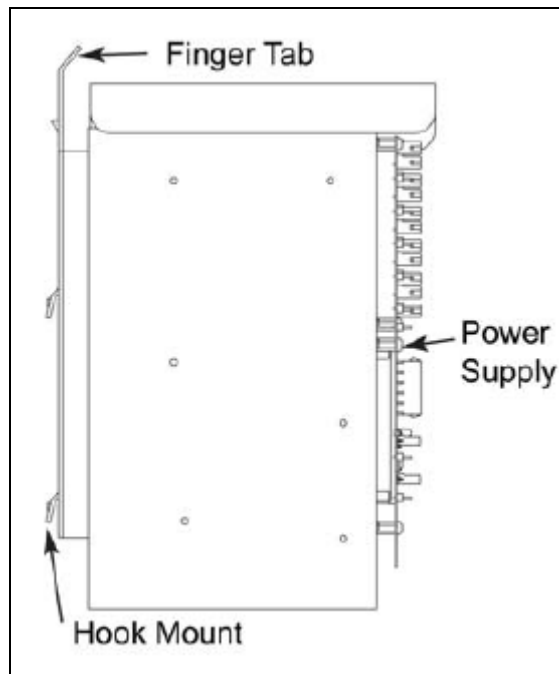

Figure 13: Power Supply Assembly
3. Pull the finger tab and lift the power supply assembly. Refer to **Figure 13**.